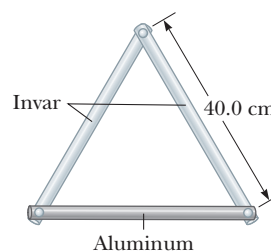

Figure P19.54
54. Two metal bars are made of invar and a third bar is made of aluminum. At  $0^\circ\text{C}$ , each of the three bars is drilled with two holes 40.0 cm apart. Pins are put through the holes to assemble the bars into an equilateral triangle as in Figure P19.54. (a) First ignore the expansion of the invar. Find